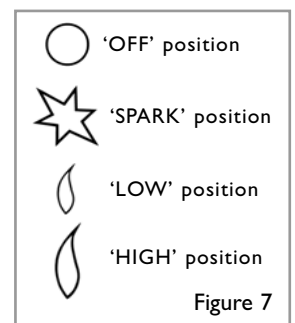

Figure 7
• The control knob is located on the lower right hand side of the outer case. It is marked as shown in figure 7.